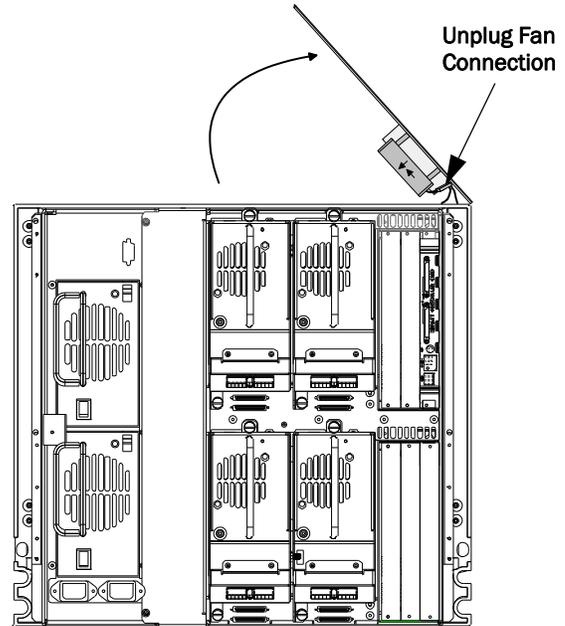

Figure 4. Cooling Fan Disconnect
- Lift the inside edge of the Fan Cover assembly and disconnect the cooling fan (Figure 4).
- a. Position the Fan Cover Assembly and reattach the cooling fan cable (Figure 4).
6. Turn the Master Power Switch at the rear to On (I) and power on the library.